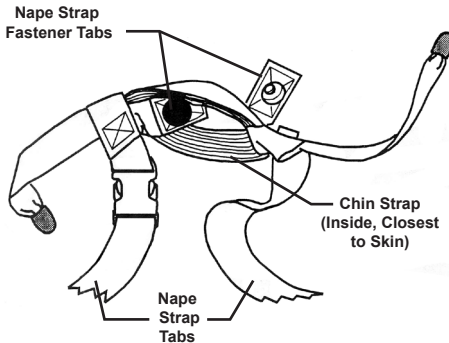

Figure 4-9. Nape Strap Installation
5. Thread the chinstrap through the right end of nape strap and snap nape strap fastener tab closed. (Refer to Figure 4-9.)
6. Thread chin strap through the left end of nape strap and snap nape strap fastener tab closed. (Refer to Figure 4-9.)
5. With the buckle lever open, take up the slack in the clip/strap assembly using the catch. Close the buckle lever (see Figure 4-9).